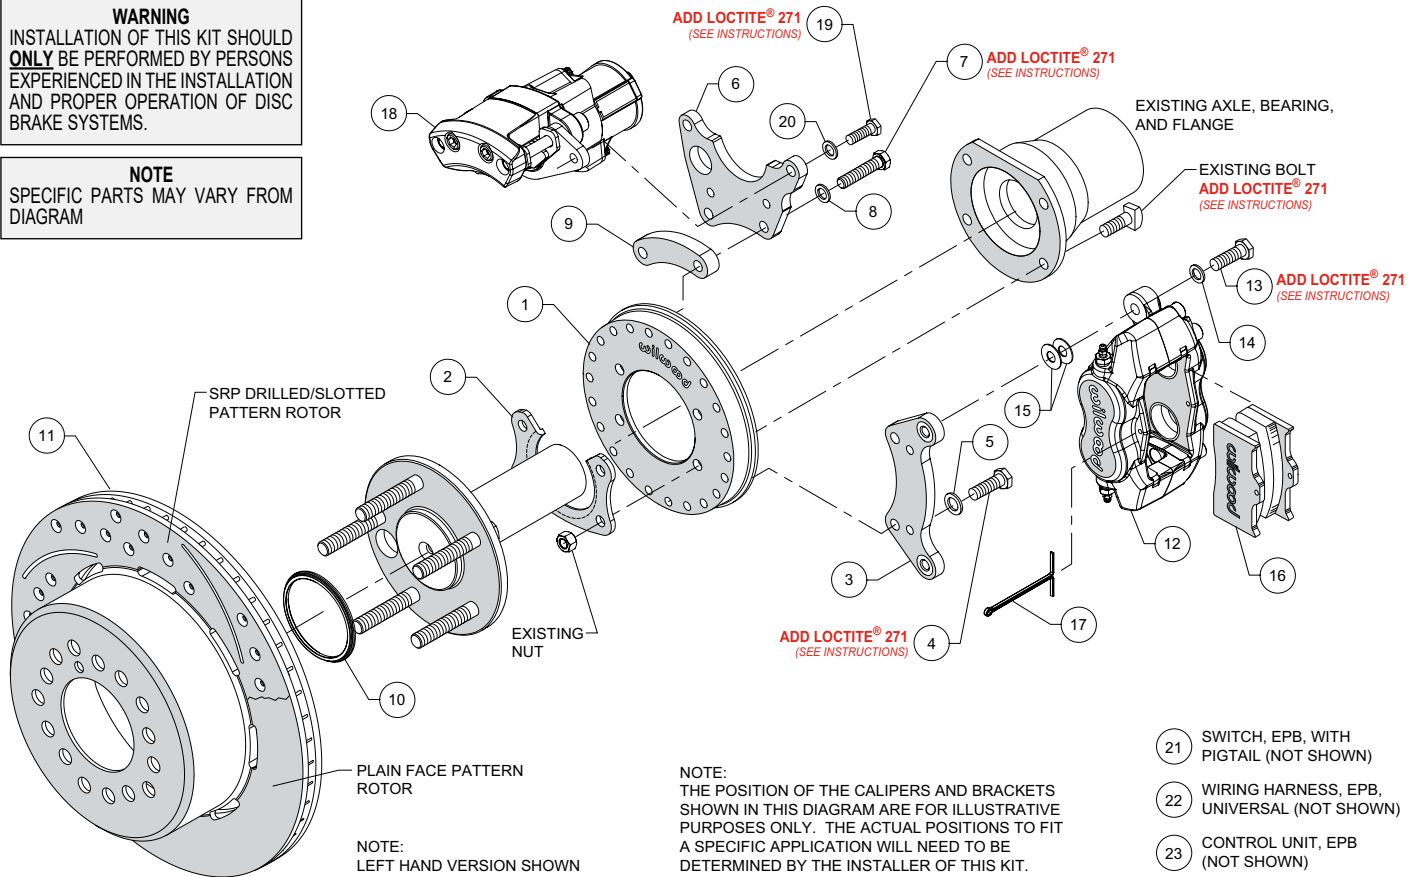
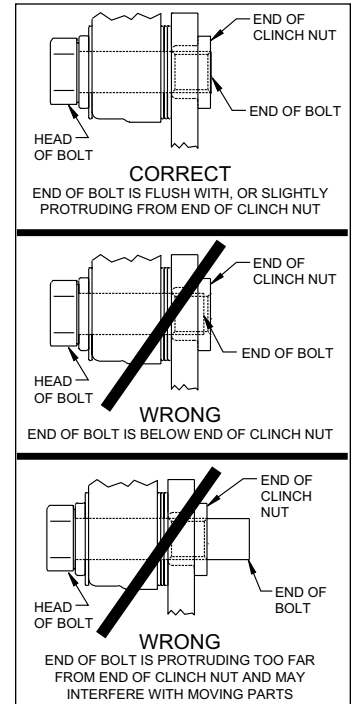

Figure 1. Typical Installation Configuration
Figure 5. Clinch Nut Engagement Diagram
NOTE: Numbers in parenthesis refer to the parts list and Figure 1 on the preceding pages.
CAUTION: All mounting bolts must fully engage clinch nuts. Be sure to check that all bolts are either flush or protruding through flanged side of clinch nut after shimming, Figure 5.
- Orient the backing plate (1) as shown in Figure 1 and Photo 1, and slide it onto the axle housing flange. Ensure the backing plate fits flush against the axle housing flange. Reinstall the axle into the axle housing.
- Install the bearing retainer (2) with the opening pointing upward and the lip facing inward (toward the bearing), as shown in Figures 1 and 4, and Photo 2. Secure retainer and backing plate to the axle housing flange using the Original Equipment Manufacturer (OEM) bolts and nuts, Figure 1 and Photo 3. Apply red *Loctite*® 271 to the OEM bolt threads and torque to OEM specifications.
- Start by determining the best location for the service caliper (12). This caliper is usually mounted in the 3:00 or 9:00 o'clock position, but may be rotated up or down approximately 45 degrees and still allow for proper bleeding, Photo 4. Orient the service caliper bracket (3) as shown in Figure 1 and Photo 5, and install to the backing plate (1) in the desired location using bolts (4) and washers (5). Temporarily tighten bolts. Next, mount the service caliper to the bracket using bolts (13) and washers (14). Temporarily tighten bolts. Check that the caliper (including inlet fitting and hose) has sufficient clearance to all surrounding components through the full suspension travel. Relocate the caliper/bracket on the backing plate as needed to ensure proper clearance is achieved.
- Determine the best location for the EPB caliper (18). **NOTE:** *The EPB caliper motor extends farther inboard than the service caliper and therefore needs additional consideration when determining a mounting location with sufficient clearance.* In the example application shown in Photo 6, the EPB caliper has sufficient inboard clearance to the leaf spring. However, if the EPB caliper were mounted closer to the 12:00 o'clock position, the inner body of the vehicle would hit the caliper during full compression of the suspension.
•Orient the EPB caliper bracket (6) as shown in Figure 1 and Photo 7, and install to the backing plate (1) in the desired location using bolts (7), washers (8), and spacer (9). Temporarily tighten bolts. **NOTE:** The EPB bracket is reversible. In one direction the bracket will position the EPB caliper closer to the service caliper, and vice versa if reversing the bracket. Next, mount the EPB caliper (18) to the bracket using bolts (19) and washers (20). Temporarily tighten bolts. **NOTE:** EPB calipers are Left and Right handed, however they can be used on either side of the vehicle to best suit your specific application. Check that the EPB caliper (including wiring harness connector) has sufficient clearance to all surrounding components through the full suspension travel. Relocate the EPB caliper/bracket on the backing plate as needed to ensure proper clearance is achieved.
•Once the caliper positions have been determined, remove both the service (12) and EPB (18) calipers, leaving both brackets in place on the backing plate. For both brackets, remove the bolts one at a time, apply red *Loctite*® 271 to the threads, and torque to 35 ft-lb.
•Slide the rotor registration adapter (10) onto the register on the axle flange with the smaller O.D. facing toward the rotor/hat (11), Photo 8. Align the correct hole pattern in the rotor/hat with the stud pattern on the axle flange and slide into place, Figure 1. **NOTE:** The rotor/hat must fit flush against the axle flange or excessive rotor run out may result. Install three lug nuts (finger tight) to keep the rotor/hat assembly in place while continuing with the installation. **NOTE:** Some OEM and after market axles come with stud sizes larger than 0.50" diameter. Verify stud size and have a qualified machine shop drill the bolt circle of the hat/rotor to the correct stud size, if necessary.
•**NOTE:** Please reference the caution statement at the beginning of the assembly instructions. Remount the service caliper (12) onto the caliper mounting bracket (3) using bolts (13) and washers (14), as shown in Figure 1. Initially place two .035" thick shims (15) on each bolt between the caliper and the bracket, Photo 9. Temporarily tighten the mounting bolts and view the rotor (11) through the top opening of the caliper. The rotor should be centered in the caliper, Photo 10. If not, adjust by adding or subtracting shims (15) between the bracket (3) and the caliper (12). Always use the same amount of shims on each of the two mounting bolts. **NOTE:** The end of each bolt must be flush with or slightly protruding from the head of the clinch nut, as shown in Figure 5. If necessary place spare shims (15) between washer (14) and caliper (12) mounting ear to achieve the proper clinch nut engagement. Once the caliper alignment and clinch nut engagement are correct, remove the bolts (13) one at a time, apply red *Loctite*® 271 to bolt threads, and torque to 40 ft-lb.
- Mount the EPB caliper (18) onto the caliper mounting bracket (6) using bolts (19) and washers (20), Figure 1. Apply red *Loctite*® 271 to bolt threads, and torque to 30 ft-lb.
- NOTE:** *The service caliper (12) in this brake kit utilizes a 1/8-27 NPT pipe thread inlet. OEM rubber brake hoses generally cannot be adapted to Wilwood calipers.* The preferred method is to use steel adapter fittings at the caliper, either straight, 45 or 90 degree (use PTFE tape on pipe threads of adapter fitting for proper sealing to caliper) and enough steel braided line to allow for full suspension travel. **Carefully route hoses to prevent contact with moving suspension, brake or wheel components.** **NOTE:** *Wilwood hose kits are designed for use in many different vehicle applications and it is the installer's responsibility to properly route and ensure adequate clearance and retention for brake hose components.* Wilwood offers universal brake flex line hose kits, domestic (3/8-24 IF) chassis fittings, order: